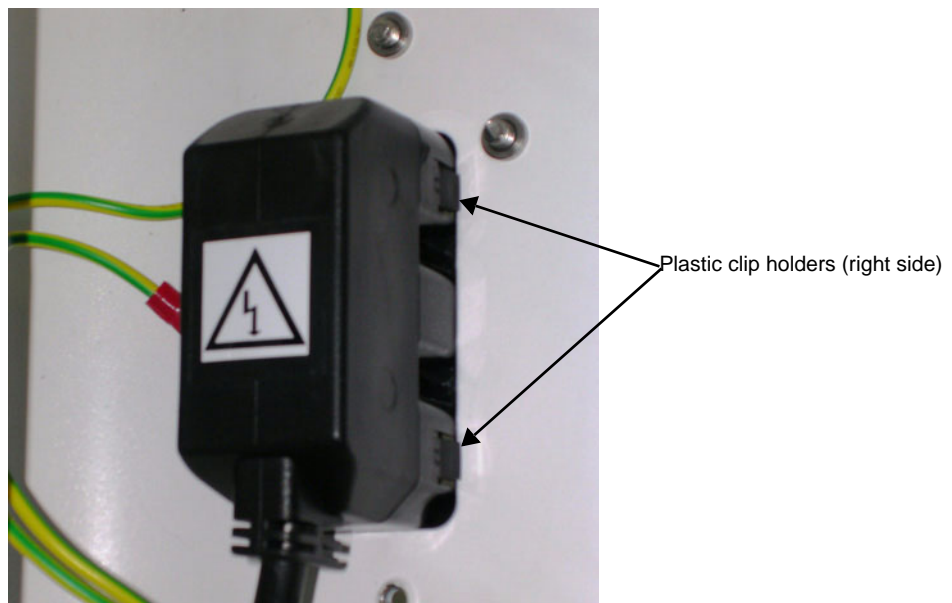

Figure 8-85 Peripheral Power Socket
- 4) Remove the Peripheral Power socket by squeezing the plastic clip holders inwards (see Figure 8-85).